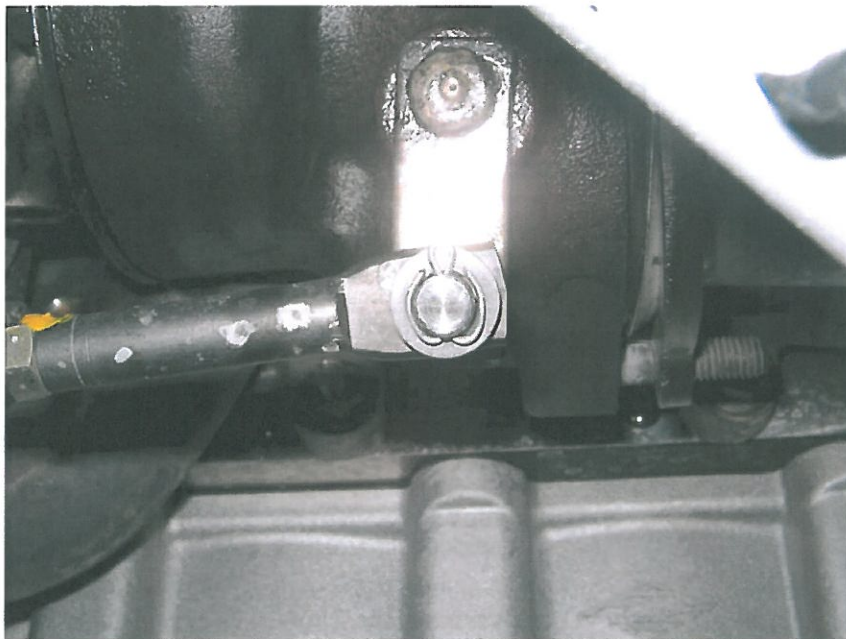

Fig. 7 Attachment of the adjustment endpiece on the waste gate lever
21. Attach the adjustment endpiece on the pin of the waste gate lever. Install the retaining ring to the groove, place the plain washer onto the connecting pin and secure it with the split-pin. See Figure 7.